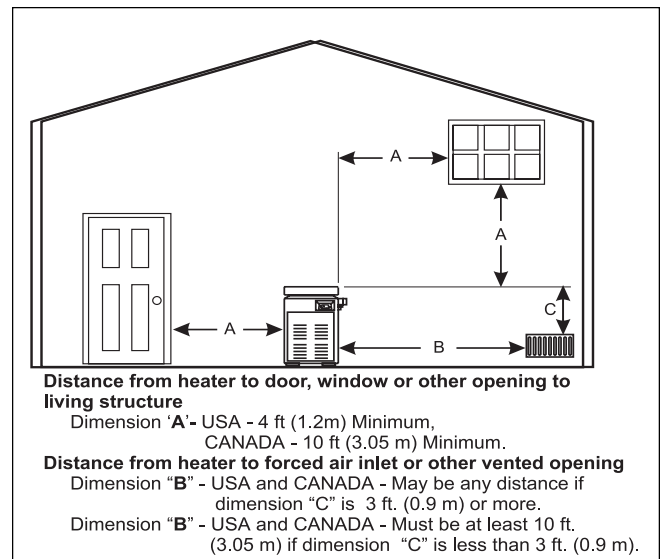

Figure 3. Outdoor Heater Installation
Do not locate the heater below or adjacent to any doors, glass openings, louvers, grills, etc., which connect in any way with an inhabited area of a building, even though the access might be through another structure (e.g., a garage or utility room). In the United States there must be a minimum of four (4) feet (1.22 m) horizontally **or** four (4) feet (1.22 m) vertically between the heater exhaust point and any door, glass opening, or gravity inlet to a building. In Canada, the heater must be installed so that the exhaust point of the heater is at least ten (10) feet (3.0 m) from any building opening (see Figure 3).